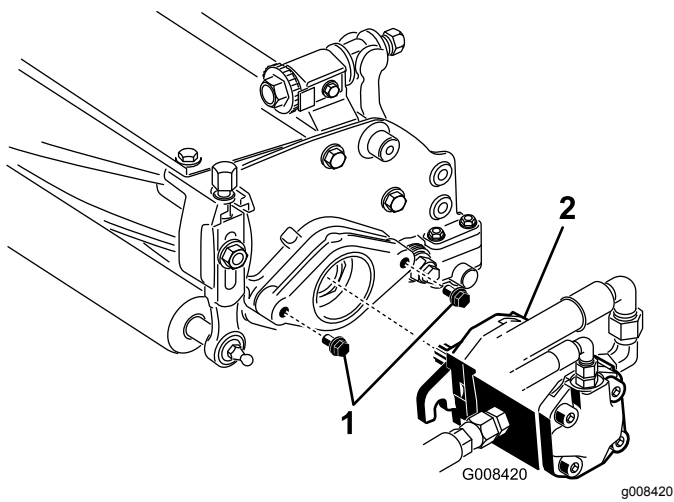

Figure 11
7. Ensure that there is approximately 13 mm (1/2 inch) of the threads exposed on each reel-drive-motor mounting bolt (Figure 11).
8. Coat the motor spline shaft with clean grease and install the motor by rotating the motor clockwise so that the motor flanges clear the studs. Rotate the motor counterclockwise until the flanges encircle the studs (Figure 11).
9. Tighten the mounting bolts (Figure 11).